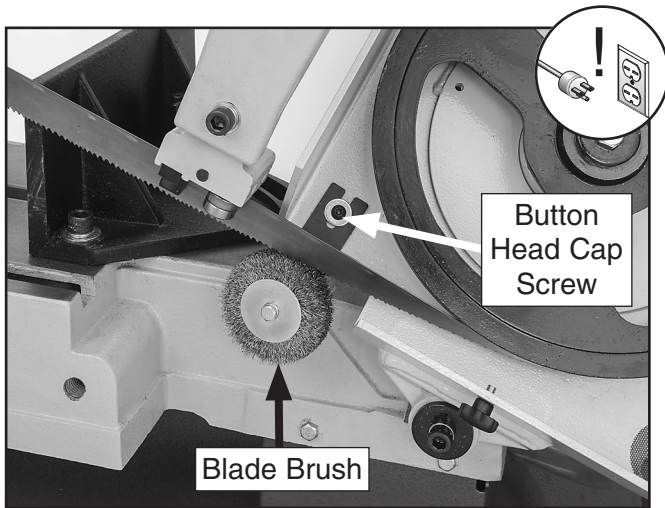

Figure 55. Blade brush adjustment location.
2. Loosen button headstock cap screw shown in **Figure 55**.